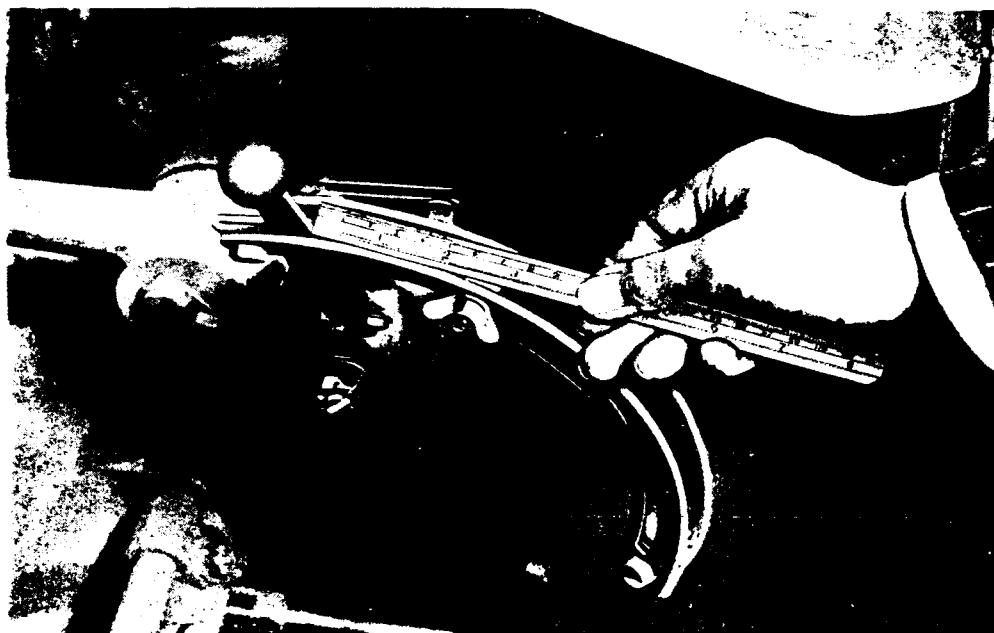

FIG. 22
2. Slacken the four screws (51) securing the quadrant to the lift cover. Note that the holes in the quadrant are elongated.
3. Set control stop (68) at exactly  $2\frac{1}{4}$  inches from the rearmost setting of the control lever. (See Fig. 22).